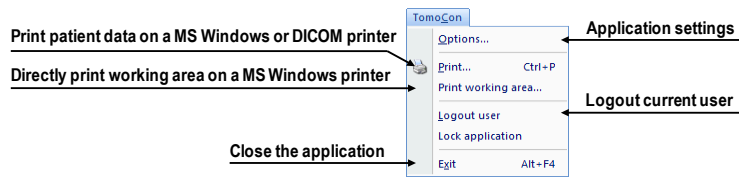

Figure 36 – TomoCon menu
- **TomoCon** – defining the application settings, printing setup (image data printing on a Microsoft Windows printer or DICOM printer), logging into and out of the application and closing TomoCon; see Figure 36.